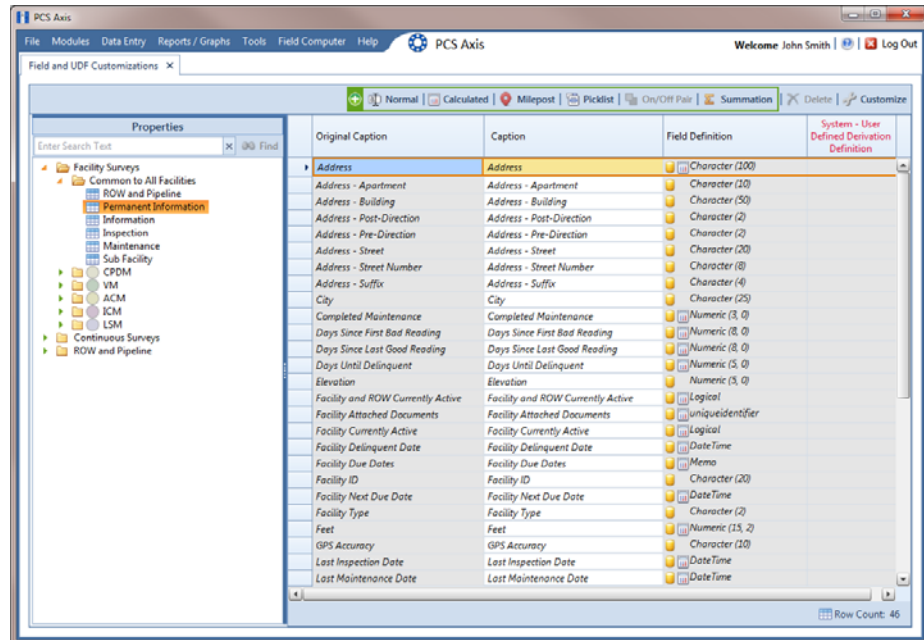

Figure 3-57. Field and UDF Customizations
- 3 Double-click **Facility Surveys > Common to All Facilities** in the *Properties* panel. Then click **Permanent Information** to display a grid with fields and property settings common to all facilities (Figure 3-57).
- 2 Double-click **Facility Surveys > Common to All Facilities** in the *Properties* panel. Then click **Permanent Information** to display a grid with fields and property settings common to all facilities (Figure 3-57, page 106).